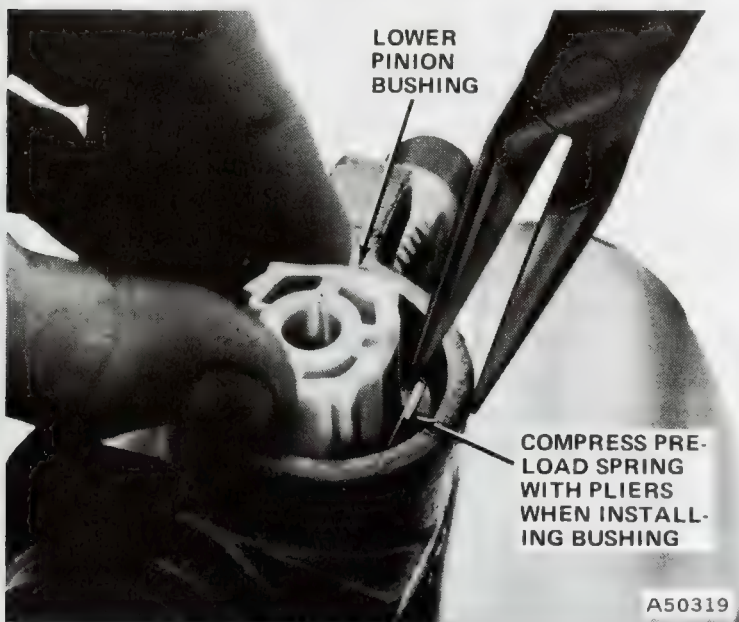

Fig. 2J-35 Lower Pinion Bushing Installation
(8) Reset distance between end of rack and housing as outlined in step (5). Flat on pinion shaft should now be at 3 o'clock position (fig. 2J-30). Be sure pinion race is bottomed in housing. If flat on pinion shaft is not at 3 o'clock with rack set at 4 inches (10.16 cm), start again at step (4).
(9) Install adjuster plug using Spanner Tool J-7624 and tighten plug until it bottoms.